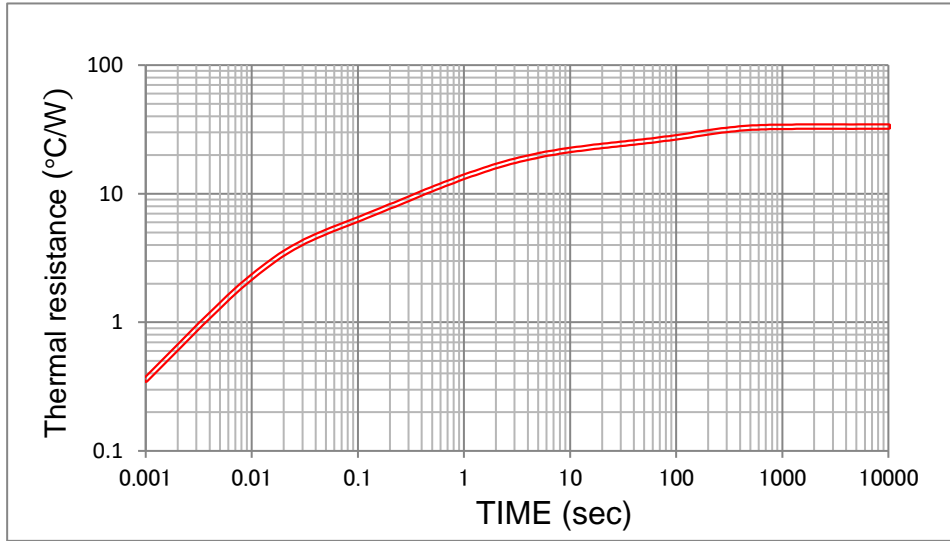

Figure 22. P-VQFN28-0606-0.65-002 transitional thermal resistance data (for reference)
- Figure 22 shows the transitional thermal resistance of the TB9120AFTG package.